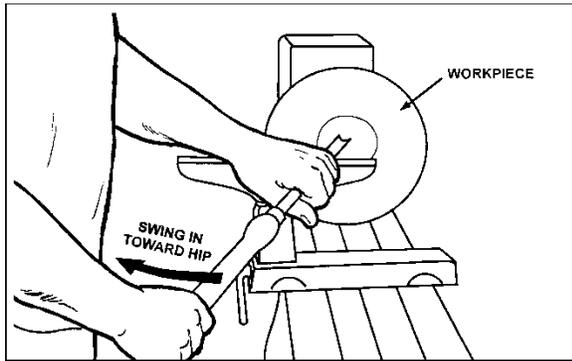

Figure 35
5. Place 1/2" bowl gouge on tool support at center of the workpiece with the flute facing top of bowl. The tool handle should be level and pointed toward the four o'clock position, as shown in Figure 35.
6. Use the left hand to control cutting edge of gouge, while right hand swings tool handle around toward your body (Figure 35). The flute should start out facing top of workpiece and rotate upward as it moves deeper into the bowl to maintain a clean even curve. As the tool goes deeper into the bowl, progressively work out toward the rim. It may be necessary to turn the tool support into the piece as you get deeper into the bowl.